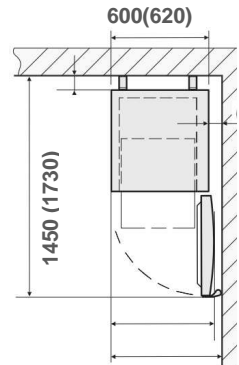

fig. 7
- When the device is placed in the corner, leave at least 60 mm of the side space (**fig. 7**).